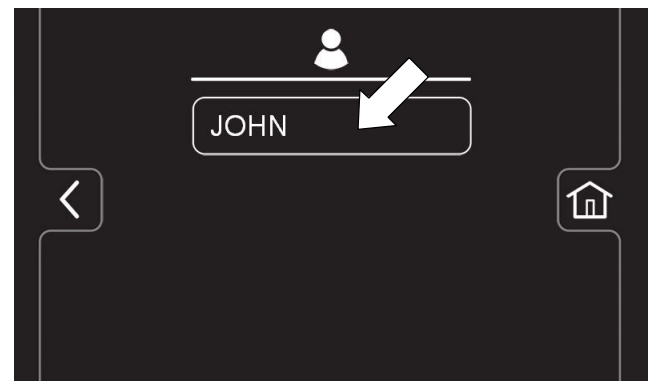

FIG. 187
7. Select a pre-assigned user profile. In this example, operator profile "JOHN" is selected (Figure 187). Turn the key off to apply the setting.